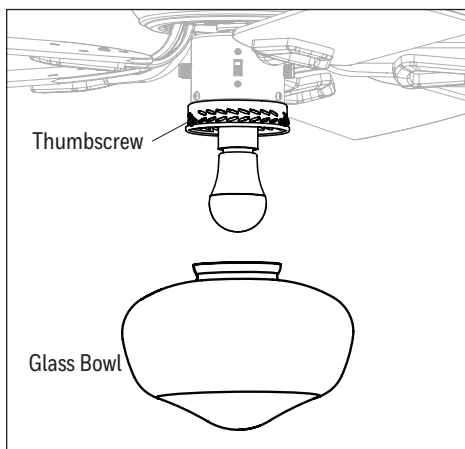

Figure 4.7
7. Loosen the three thumbscrews near the bottom edge of the light kit. Lift glass bowl into light kit and tighten thumbscrews to secure (Figure 4.7).